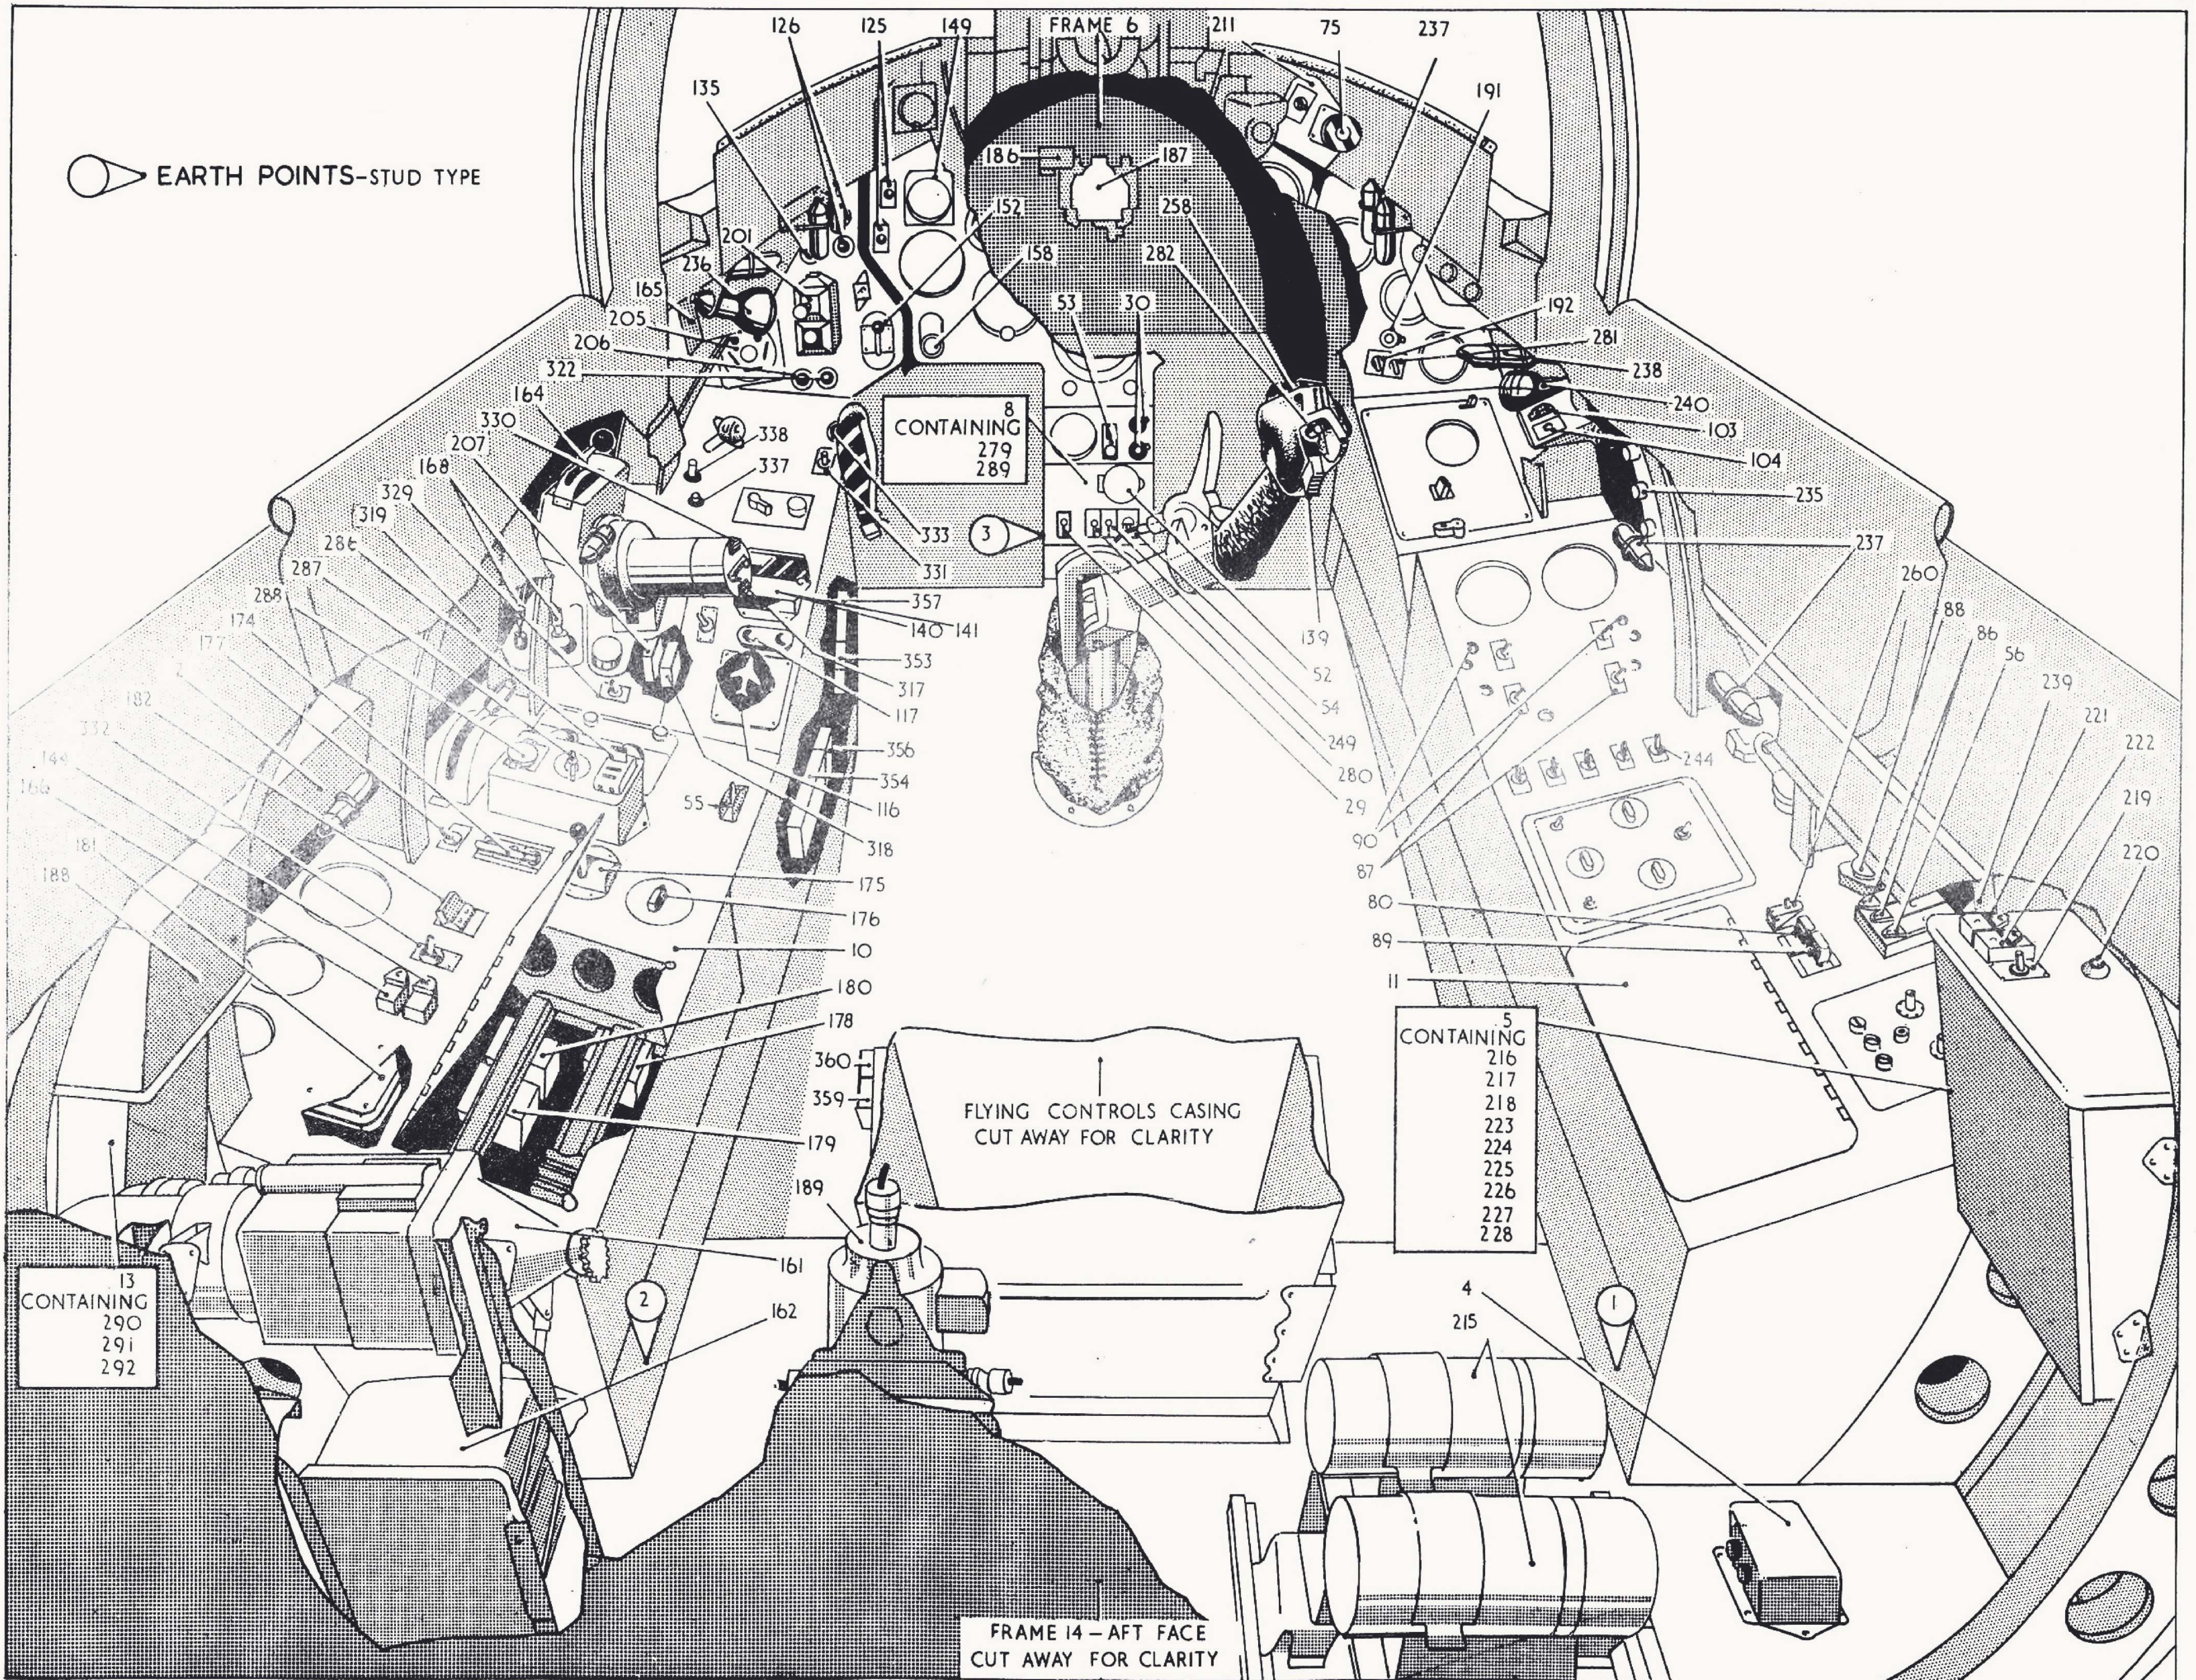

FIG. 2 LOCATION-COCKPIT
4. The location in the aircraft of all the electrical equipment is illustrated in fig.2 to 6